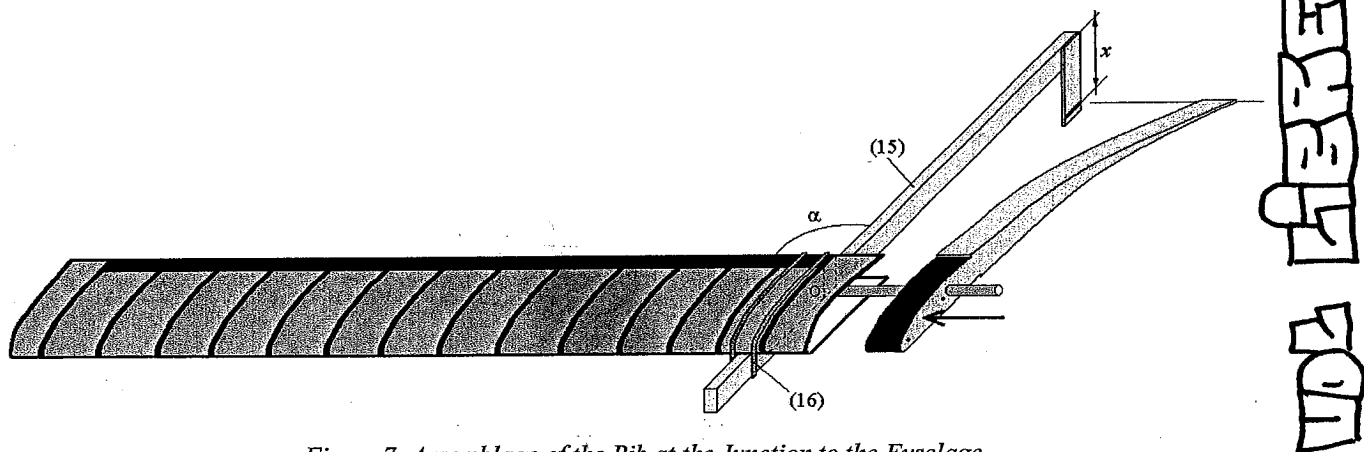

Figure 7. Assemblage of the Rib at the Junction to the Fuselage
For the assemblage of the end rib, an auxiliary device shall be built (15) to be assembled with the flexible rubber (16) at the lower side of the leading edge”D” box that will do such extrapolation. This device will allow for a correct assemblage by the alignment of the sign marked at the „x” distance with the rib tail. Concomittantly to this device, a template shall be used , to verify with it the α angle between spar and end rib (*figure 7*), that will be stuck by means of epoxy resin over a 5 minute polymerization time duration.
Le profil choisi pour l'aile sera à une distance connue "x" au-dessus de la ligne d'intrados du D-box, voir fig.7.